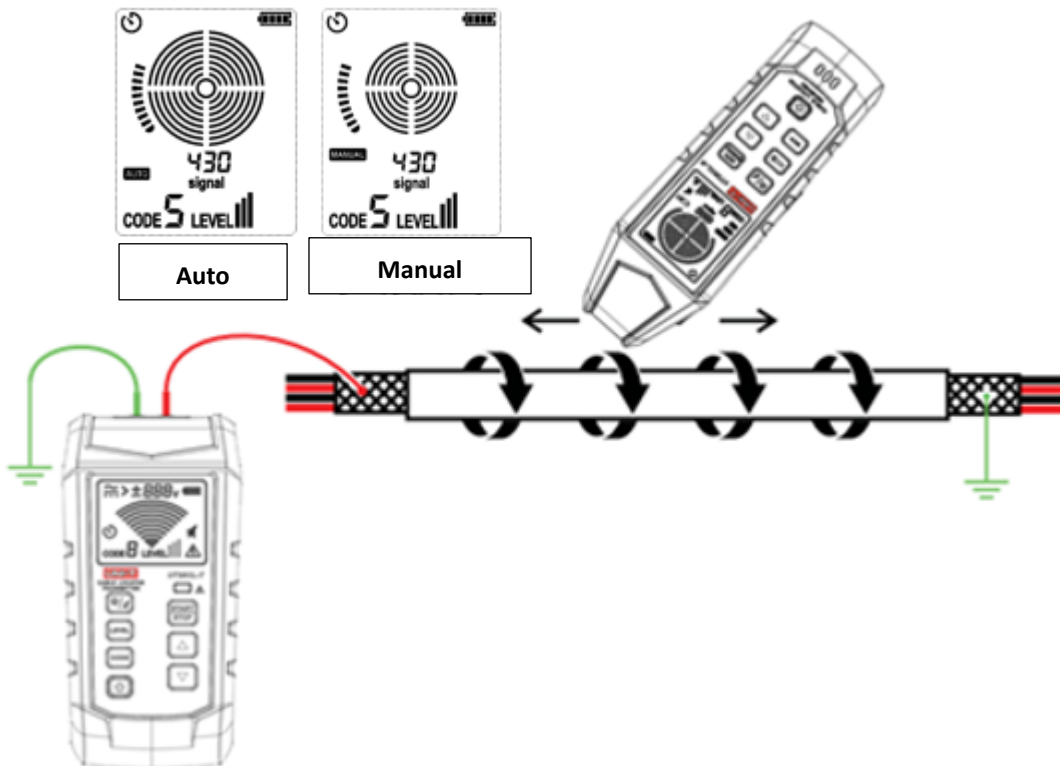

Figure 8.5.1a Track shielded cable (with its far end grounded)
5. See Figure 8.5.1a for specific application.